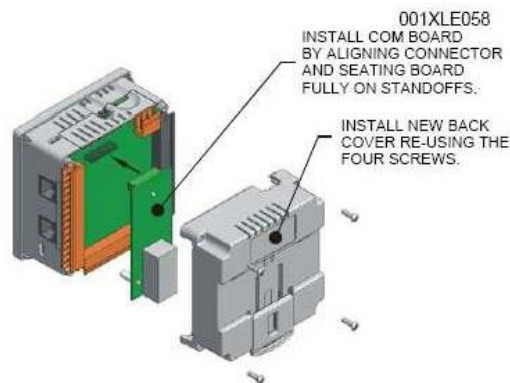

Figure 2 - Installing the COM Board in the XLE
3. Plug the HSQ module onto the 24-pin connector. Ensure that all the pins are properly aligned (Figure 2).
5. Place the screws back into the hole and turn the screw slowly counter clockwise until it clicks into the threads. This prevents the screw from being cross-threaded. Turn the screw clock-wise until the cover is firmly secured. Repeat this process for all four (4) screws. Do not tighten the screws to more than 0.4Nm (3.5 in-lb).